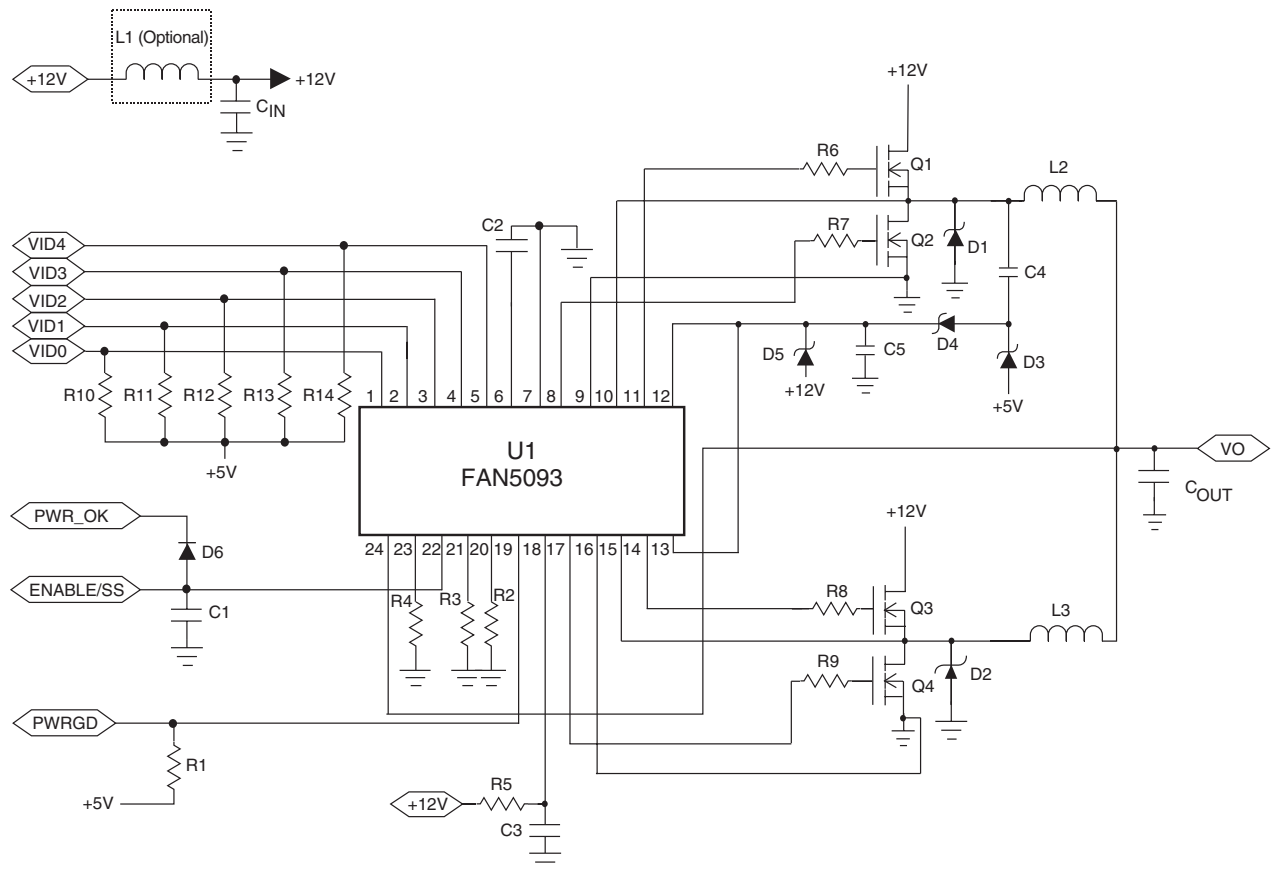

Figure 1. Application Circuit for 1.6V, 35A Athlon Medium-Frequency Application (500 KHz each phase)
**Table 2. FAN5093 Application Bill of Materials for Figure 1**
The FAN5093 contains four high current output drivers that utilize MOSFETs in a push-pull configuration. The drivers for the high-side MOSFETs use the BOOT pin for input power and the SW pin for return. The drivers for the low-side MOSFETs use the VCC pin for input power and the PGND pin for return. Typically, the BOOT pin will use a charge pump as shown in Figures 1–3. Note that the BOOT and VCC pins are separated from the chip's internal power and ground, BYPASS and AGND, for switching noise immunity.